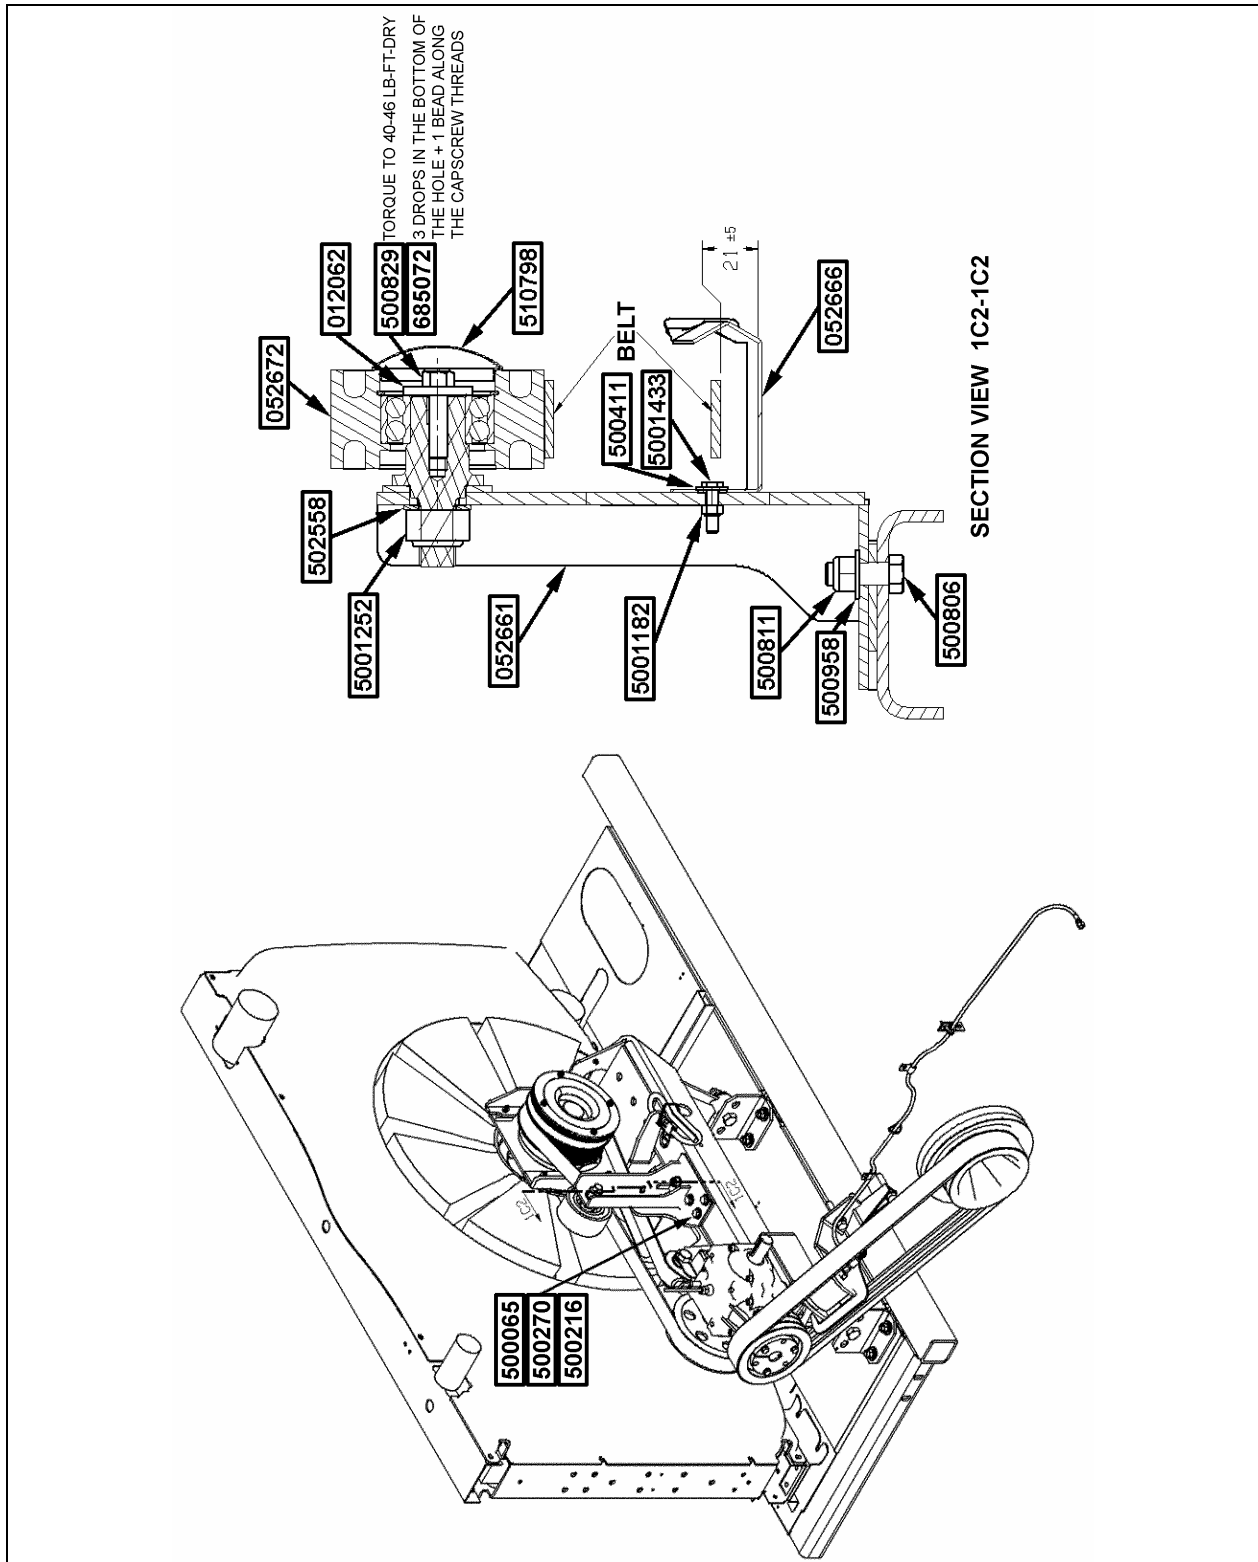

FIGURE 3
1. Put 3 drops of "Loctite 243" (685072) in the bottom of the hole of the idler roller hub (052672) and one bead along the cap screw (500829) threads. Install flat washer (012062) and screw into idler roller hub then torque screw to 41-46 lb-ft dry (See figure 3). Install protective cap (510798) onto idler roller assembly.
- Unless previously done, release air pressure from bellows by turning counterclockwise the belt tensioner pressure releasing valve. Install idler roller support assembly onto the radiator fan transfer mechanism mounting base. Fix idler roller support assembly using screw (500806), flat washer (500958) and nut (500811) (See figure 3).
4. Idler roller support assembly is also secured onto the radiator fan transfer mechanism mounting base using 3 screws (500065), flat washers (500270) and split-lock washers (502616) (See figure 3).
5. Fix air deflector (052666) onto idler roller support assembly using 2 screws (5001433), flat washers (500411) and nylon insert hexagonal lock nuts (5001182). Make sure to locate the air deflector about 21 mm below the belt (See figures 3 and 4). Reapply air pressure to bellows by turning clockwise the belt tensioner pressure releasing valve.